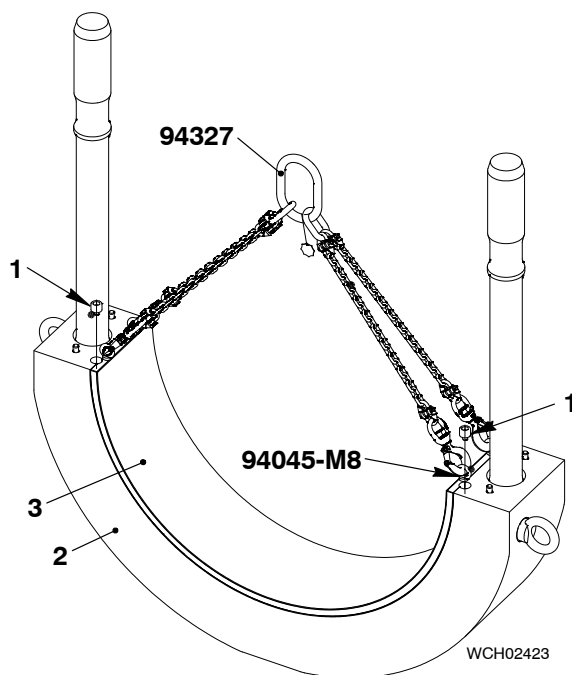

Fig. 11
- 1) Attach the four eye bolts (94045-M8, Fig. 11) to the bearing shell (3).
- 4) Operate the manual ratchet (H4) to lift the bottom bearing shell (3).
- 5) Clean the seating surface of the bearing cover (2) and the bearing shell (3).
- 6) Apply a small quantity of clean oil to the surface of the bearing shell (3).
- 7) Attach the bearing shell (3) to the bearing cover (2) with the four screws (1).